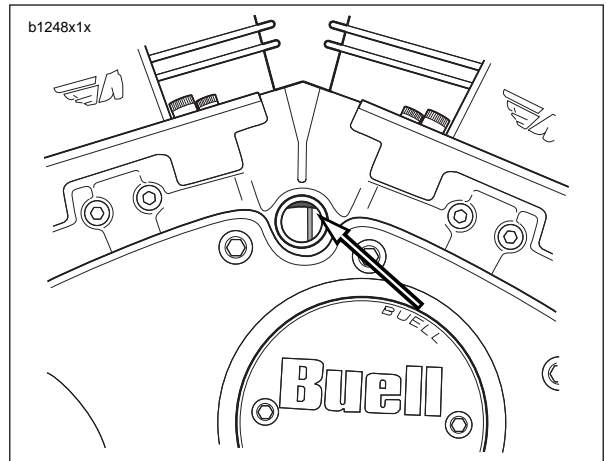

Figure 1-56. Retarded Timing
4. See Figure 1-56. If timing is retarded (mark appears on right side of window) rotate timing plate clockwise.